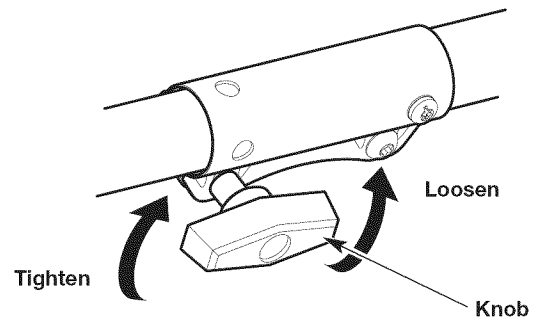

Fig. 8
3. Turn the knob counterclockwise to loosen the coupler (Fig. 8).
6. Turn the knob clockwise to tighten the coupler (Fig. 8).
2. Turn the knob counterclockwise to loosen the coupler (Fig. 8).